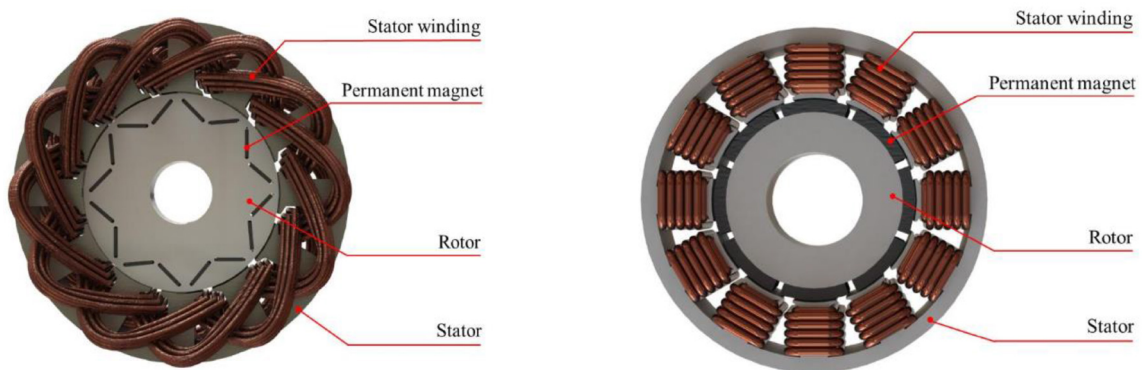

FIGURE 8-29. (a) IPM motor (b) brushless dc motor configurations
IPM (interior permanent magnet) motor is an Alternating Current (AC) synchronous motor, where the permanent magnets are inserted inside the rotor, while in brushless dc motors the permanent magnets are mounted on the surface of the motor, as illustrated in figure 8-29.